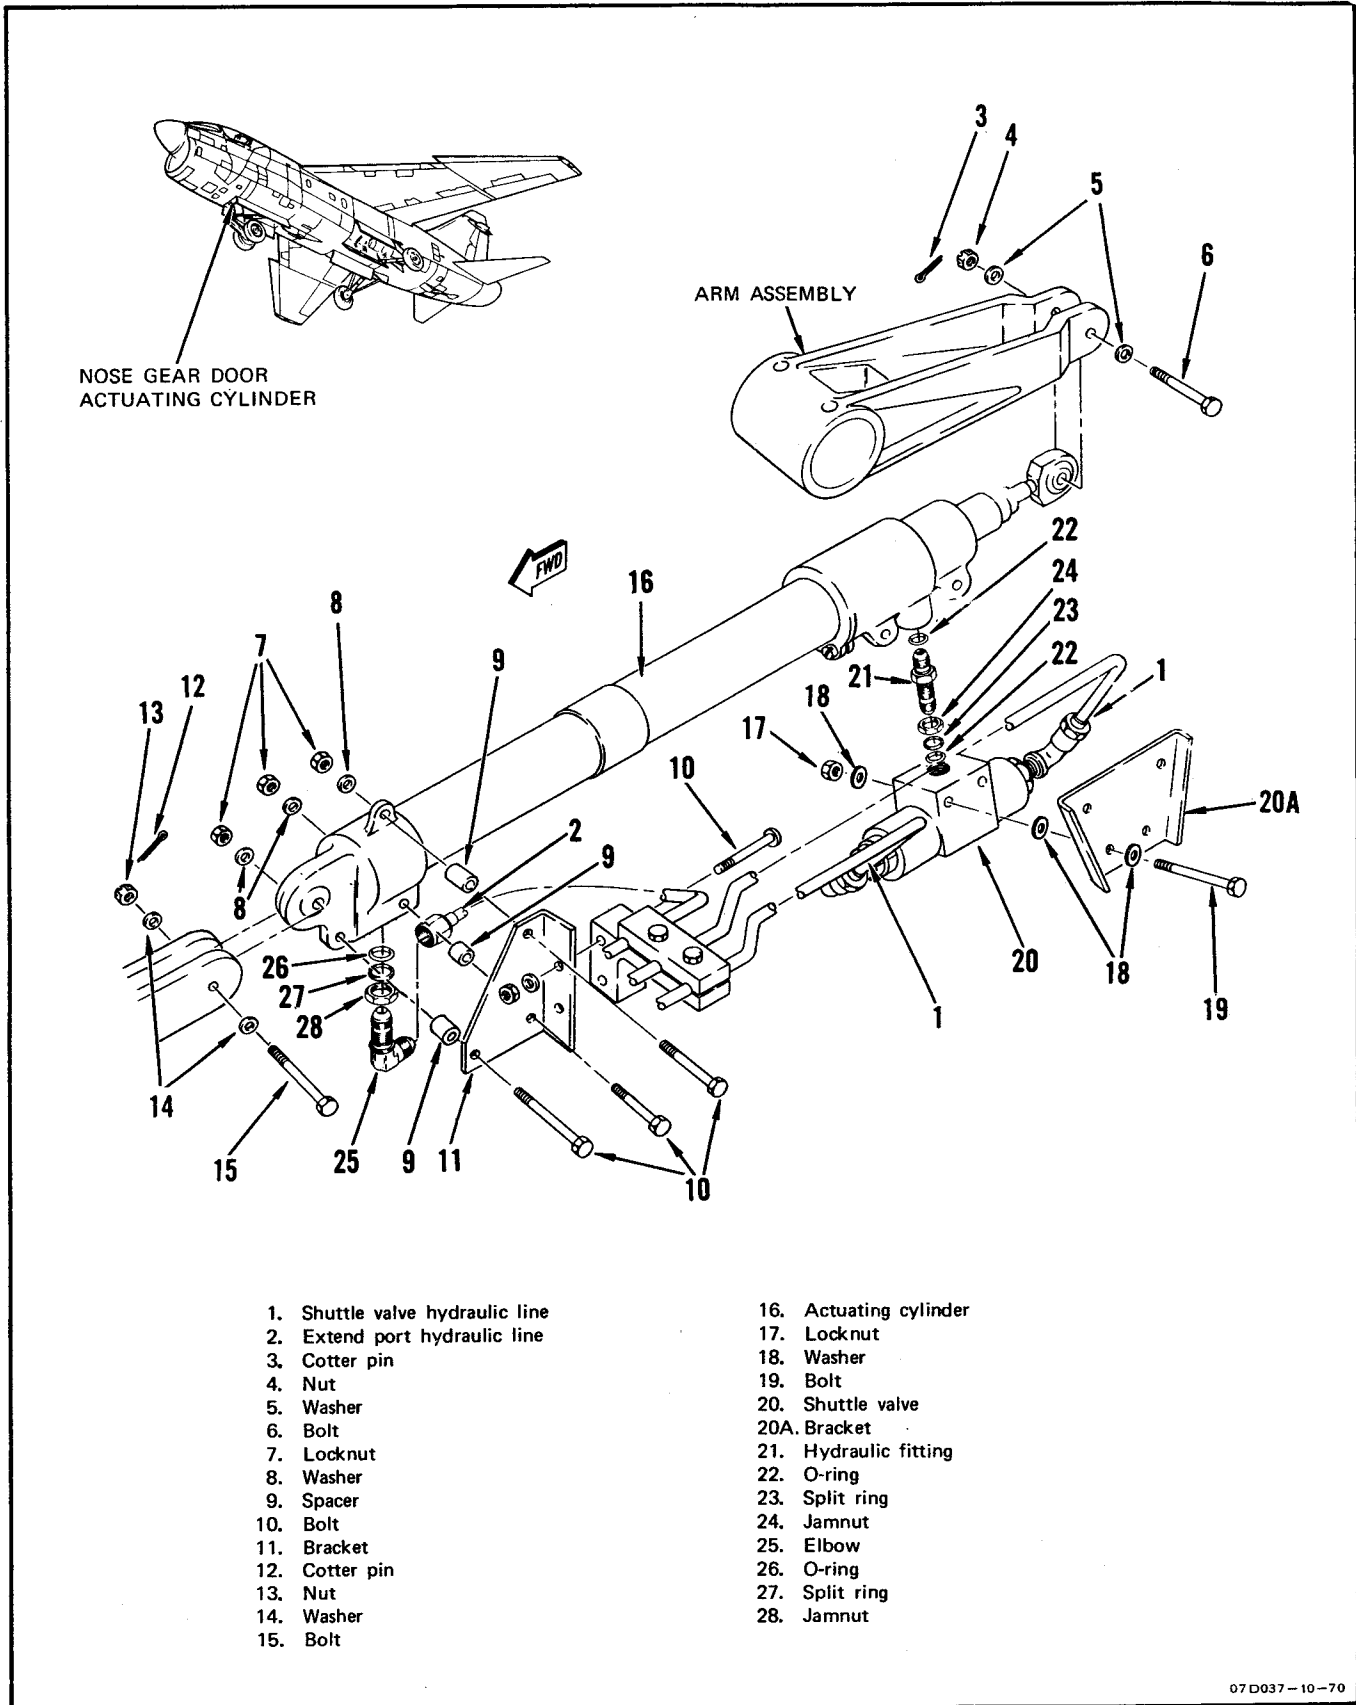

Figure 2-6. Nose Gear Door Actuating Cylinder Removal and Installation
**2-34. REMOVAL. (See figure 2-6.)****NOTE**
- b. Disconnect hydraulic lines (1) from shuttle valve. Install protective plugs.
- c. Disconnect hydraulic line (2) from extend port. Install protective plugs.
- d. Remove cotter pin (3), nut (4), washers (5), and bolt (6) from rod end.
- e. Remove nuts (7), washers (8), spacers (9), and bolts (10) securing bracket (11) to cylinder.
- f. Remove cotter pin (12), nut (13), washers (14), and bolt (15) securing lug end of cylinder and remove cylinder (16) from airplane.
- g. Remove locknuts (17), washers (18), and bolts (19) securing shuttle valve (20) and bracket (20A) to cylinder.
- h. Loosen jamnut and screw shuttle valve (20) from actuating cylinder.
- i. Remove hydraulic fittings (21), O-rings (22), split ring (23), and jamnut (24) from fitting. Install protective plugs.
- j. Loosen jamnut and remove elbow (25) from cylinder. Install protective plugs.
- k. Remove O-ring (26), split ring (27), and jamnut (28) from elbow.
**2-35. INSTALLATION. (See figure 2-6.)**
a. Jack airplane (T.O. 1A-7D-2-1). Install jamnut (28), new split ring (27) and new O-ring (26) on elbow (25). Install elbow in cylinder. Do not tighten jamnut.
b. Install jamnut (24), new split ring (23), and new O-rings (22) in hydraulic fitting (21) and install fittings in cylinder. Screw shuttle valve (20) in until bracket holes align. Do not tighten jamnut.
c. Secure shuttle valve (20) and bracket (20A) to cylinder with bolts (19), washers (18), and locknuts (17). Tighten jamnut (24).
d. Fill cylinder (16) with hydraulic fluid, plug ports and install lug end with bolt (15), washers (14), and nut (13). Tighten nut and install new cotter pin (12).
e. Secure bracket (11) with bolts (10), spacers (9), washers (8), and nuts (7). Tighten nuts.
g. Remove protective plugs and connect extend port hydraulic line (2). Tighten jamnut (28)
j. Remove protective plugs and connect shuttle valve hydraulic lines (1).